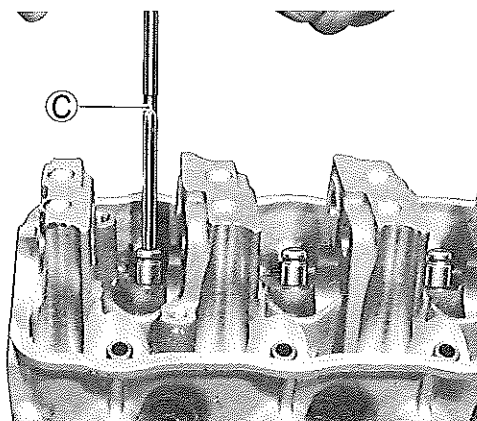

Fig. 4-61
- 3) Check all valve guides in place for I.D. and, if the I.D. reading compared with the stem diameter reading indicates too small a radial clearance, ream the guide I.D. with the reamer (C) (09916-34520), as shown in Fig. 4-61.